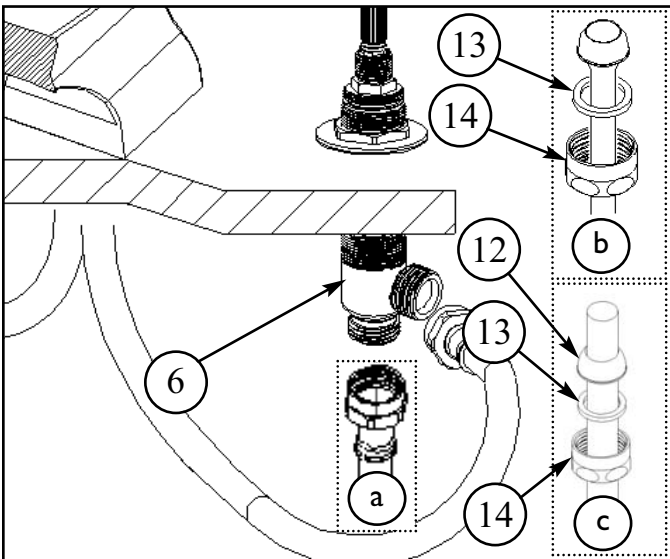
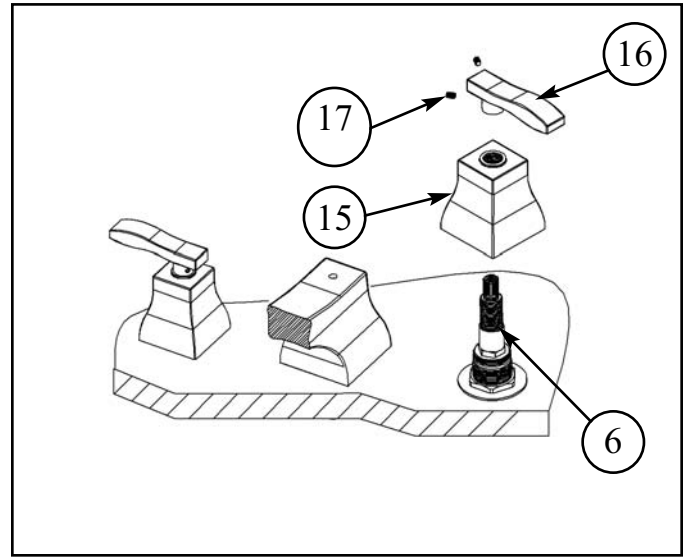

Figure 3
Figure 4
4. Connect hot/cold water supply to appropriate 1/2" NPSM valve BODY (6), utilizing one of the three following types of risers. Supply risers not included. See Figure 3.
- a. 1/2" IPS flexible riser: discard rubber nosecone WASHER (12), friction WASHER (13) and coupling NUT (14).
- b. 3/8" or 1/2" OD bullnose riser: utilize friction WASHER (13) and coupling NUT (14).
- c. 1/2" copper riser: utilize rubber nosecone WASHER (12), friction WASHER (13) and coupling NUT (14).
5. Attach ESCUTCHEON (15) and HANDLE (16). Any adjustments for rotational alignment must be made to the valve BODY (5) - not to the cartridge. (Note: Allow minimum spacing between HANDLE (16) and ESCUTCHEON (15) to prevent damage to the surface finish.) Secure HANDLE (16) into place with SETSCREWS(17). See Figure 4.